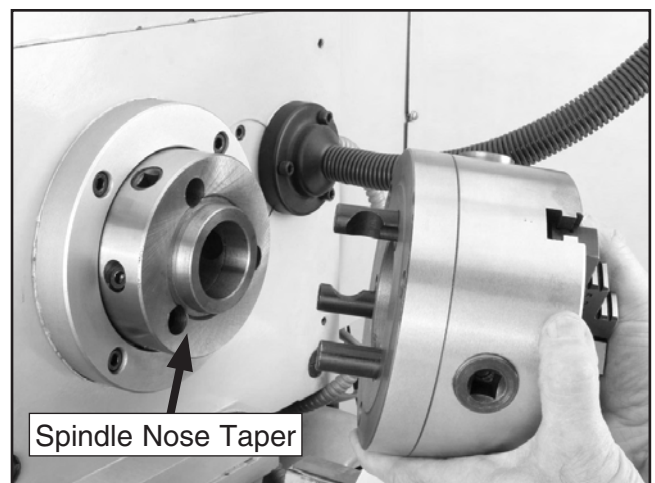

Figure 17. Installing and removing a small chuck.
5. With a rocking motion, carefully remove the chuck from the spindle nose (see **Figure 17**).
7. Lift the chuck, and insert the studs onto the spindle nose (see **Figure 17**).